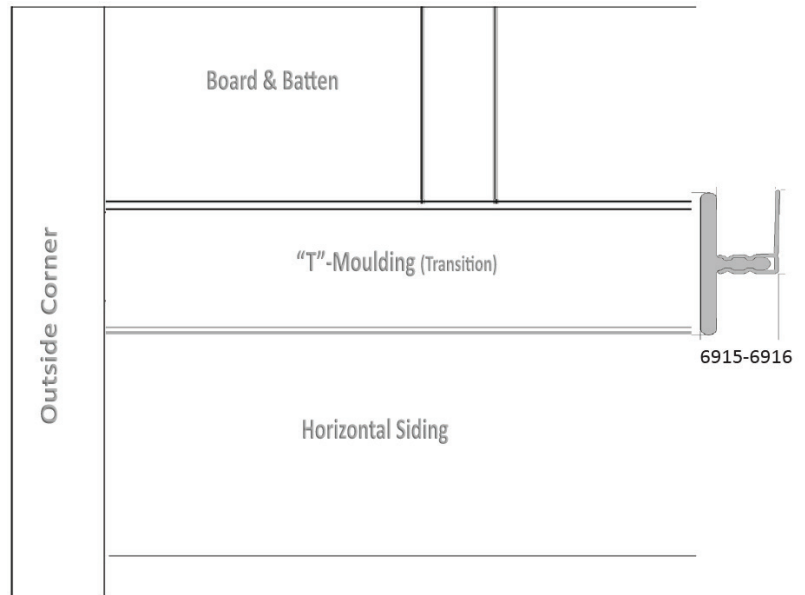

Figure 3
5. Once siding panels are installed (both sides of the transition), install the 6916 "T"-Moulding by snapping it into the Trim Receiver (Figure 3).